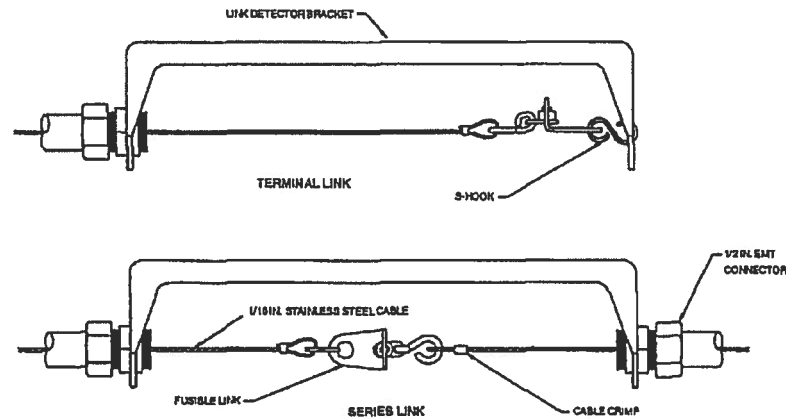

Figure 2-10. Model FLK-1 Fusible Link
- The Model FLK-1 fusible link kit includes a 10 in. steel bracket, two (2) 1/2 in. EMT connectors, two (2) cable crimps, and two (2) "S" hooks. Fusible links must be ordered separately. See Figure 2-10.